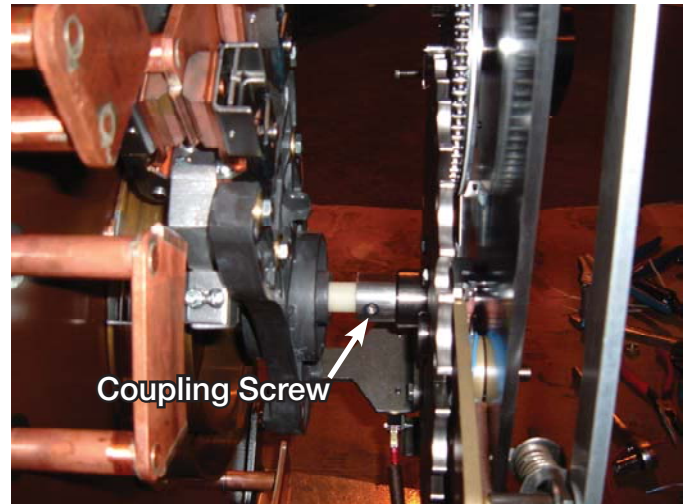

Figure 14.
13. Insert the small end of the thermoset composite shaft through the hole of the phenolic panel, then through the hole in the movable contact board, and into the end of the steel shaft. Use a rubber mallet to lightly tap the back end of the thermoset composite shaft to ensure the shaft is inserted all the way into the steel shaft. Apply a drop of Loctite 243 on the last 1/4 inch of the coupling screw threads. Insert the screw into the side of the steel shaft with the countersunk hole. The thermoset composite shaft can be turned using a 3/4 inch open end wrench on the back end of the shaft to align the holes of the two shafts. Torque the coupling screw with a 9/64 hex wrench (Allen Wrench) to 10 to 15 in-lbs (1.12 to 1.69 Nm) (refer to Figure 14).